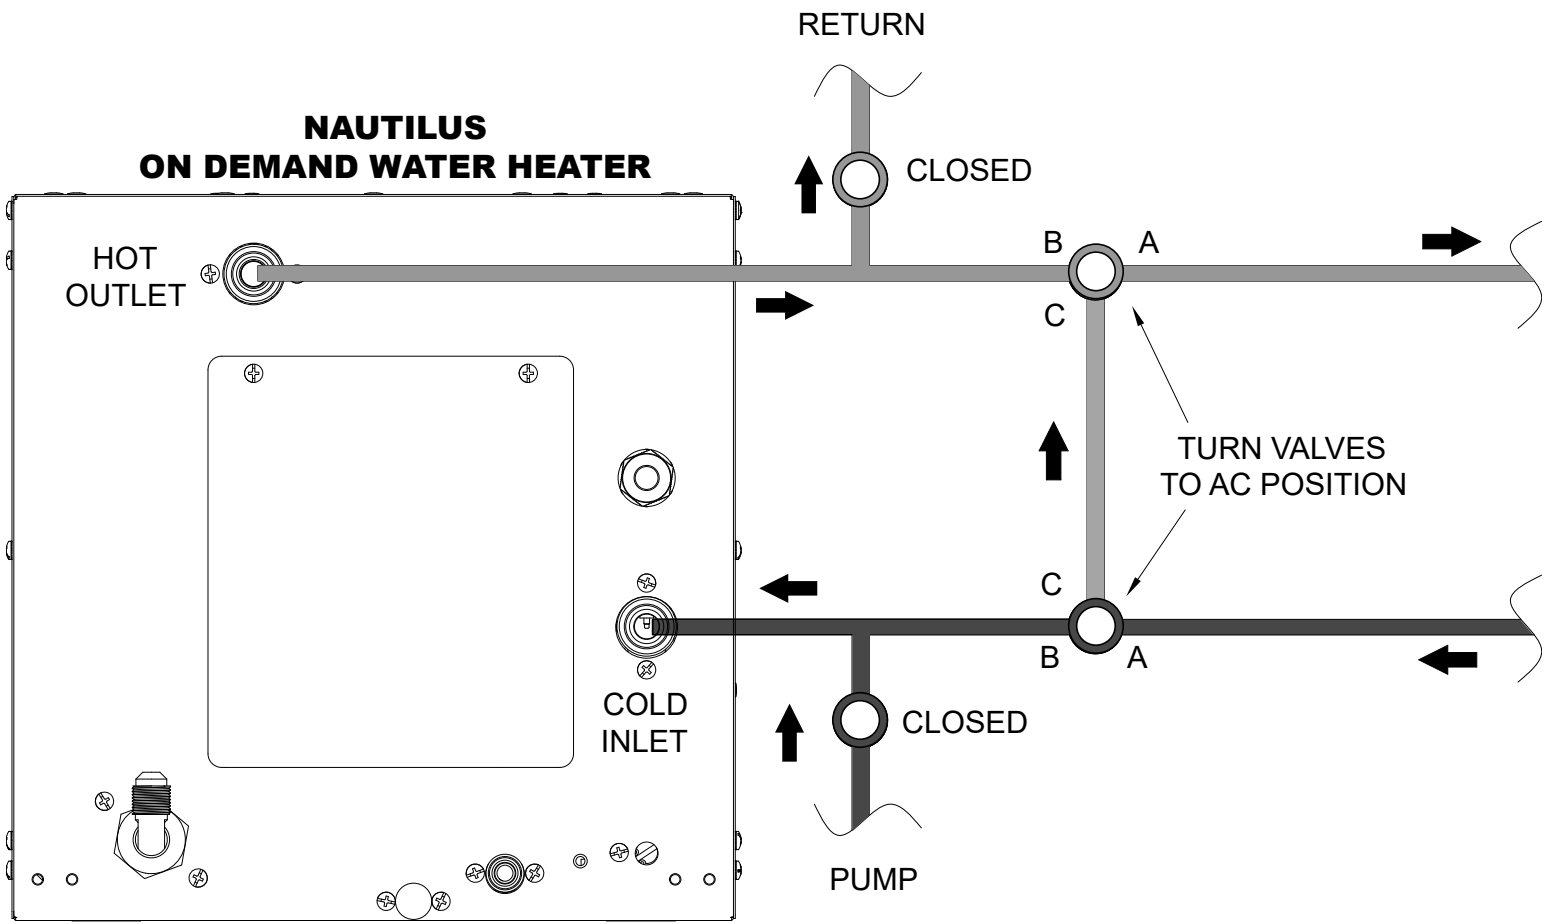

FIGURE 3
- c. Figure 3 shows the bypass system in bypass mode to prevent water flow through the water heater for servicing and winterization.